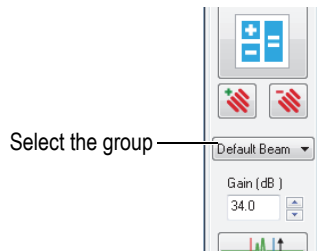

Figure 4-15 Selecting the UT group in the Dashboard
5. On the Dashboard, select the newly created group (Figure 4-15 on page 111).